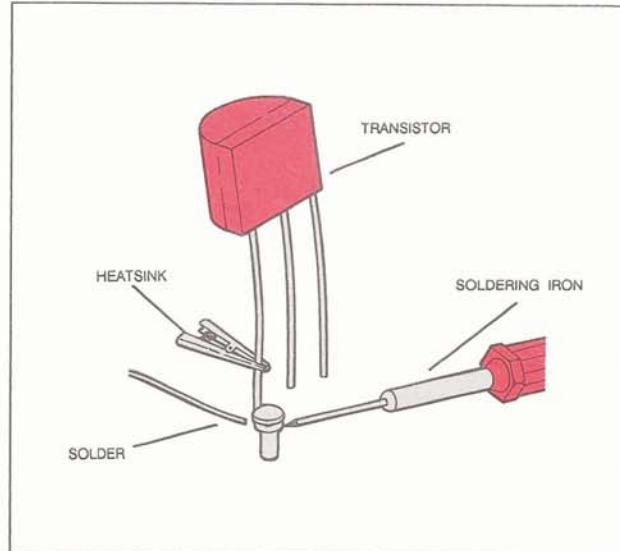
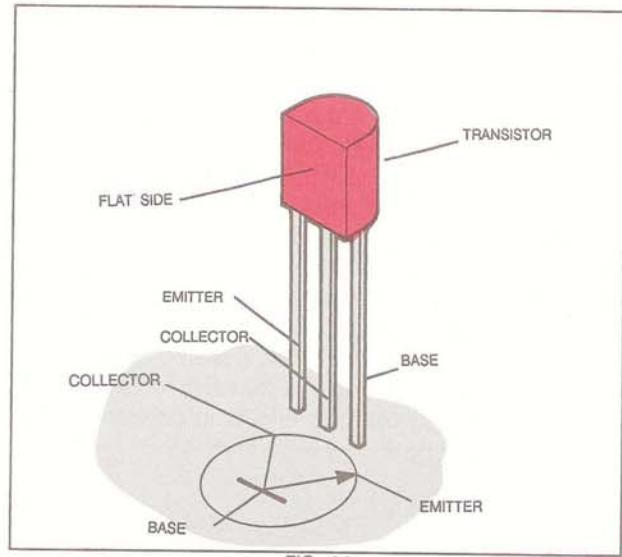

FIG. 23
FIG. 24
4. Tin (coat with a thin layer of solder) the leads of transistor Q16. Use a heatsink on the leads while soldering, as illustrated in Fig. 23. See Fig. 24 for proper lead and number identification. CAUTION: THE LEADS MUST BE CONNECTED PROPERLY IN THE CIRCUIT OR THE TRANSISTOR MAY BE DAMAGED